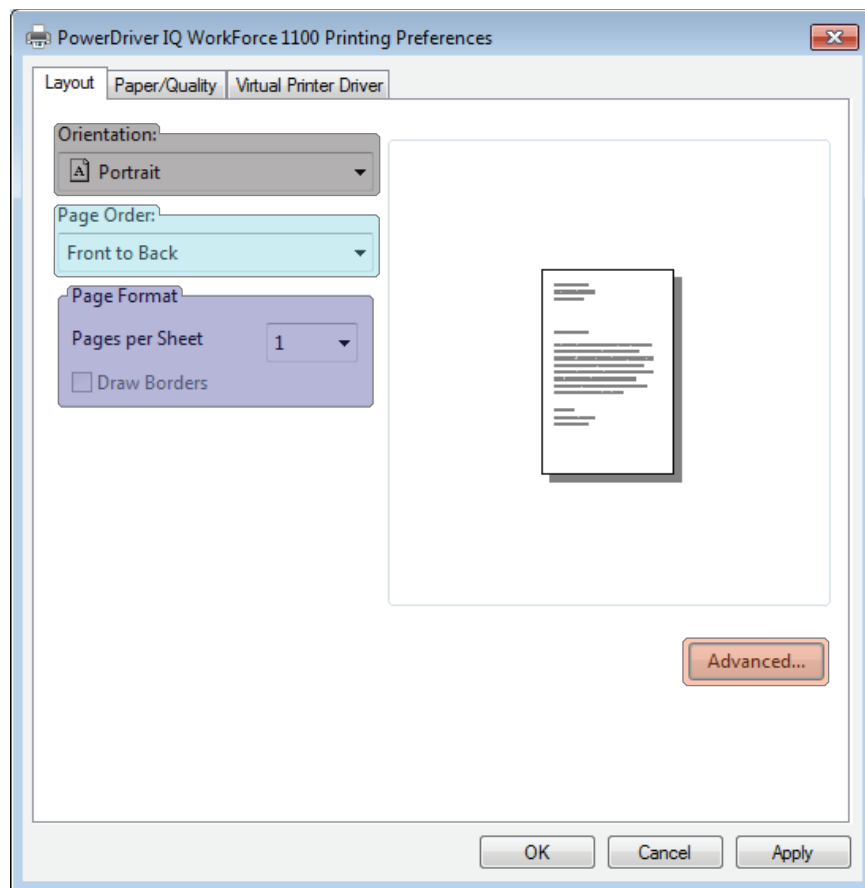

FIGURE 4
- Head Cleaning** – Click here to initiate the head cleaning process. This feature is necessary when nozzles are missing thus causing color shift or "banding" in your printed images. You should print a nozzle check to confirm missing nozzles before performing a head cleaning. Repeat the Head Cleaning until a complete nozzle check has been achieved. Cartridge users should only perform two (2) head cleanings, while users of bulk ink systems can try up to five (5). Contact technical support if you fail to achieve a good / complete nozzle check after the recommended amount of cleanings.
- 4.) At the top of the PowerDriver IQ WorkForce 1100 Printing Preference window, click the **Layout** tab. Here you will find four different **SECTIONS** to utilize: (see *FIGURE 4*).